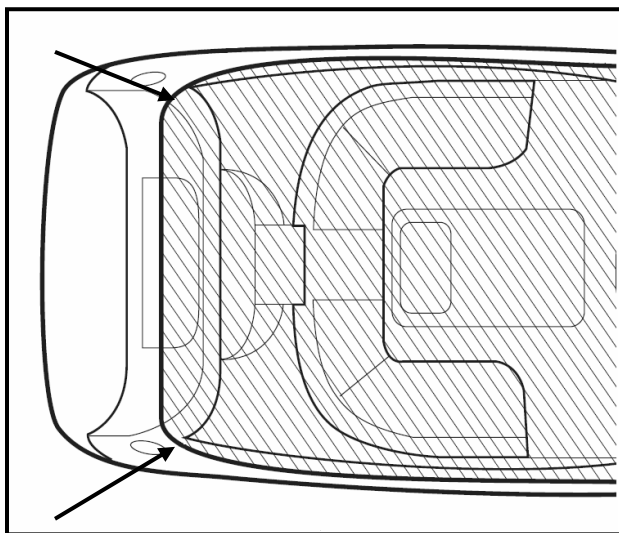

Fig. 2
- Pull the canvas taut back and locate the rear corner snaps. (Fig. 2)